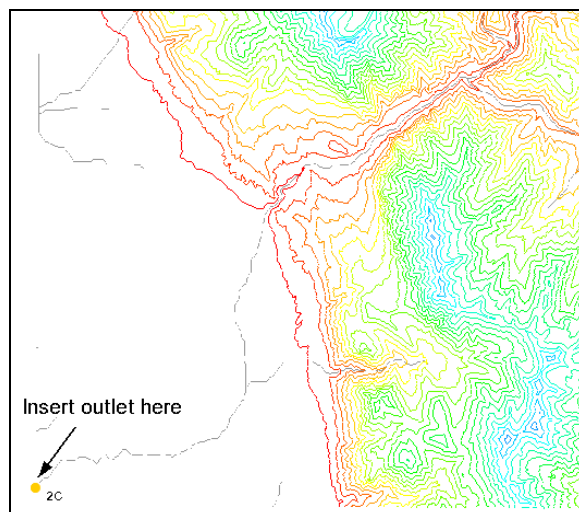

Figure 2-2: New outlet point.
2. Create an outlet on the river in the lower left corner of the DEM, as seen in Figure 2-2. Be sure to click close enough to the river so the outlet snaps to the